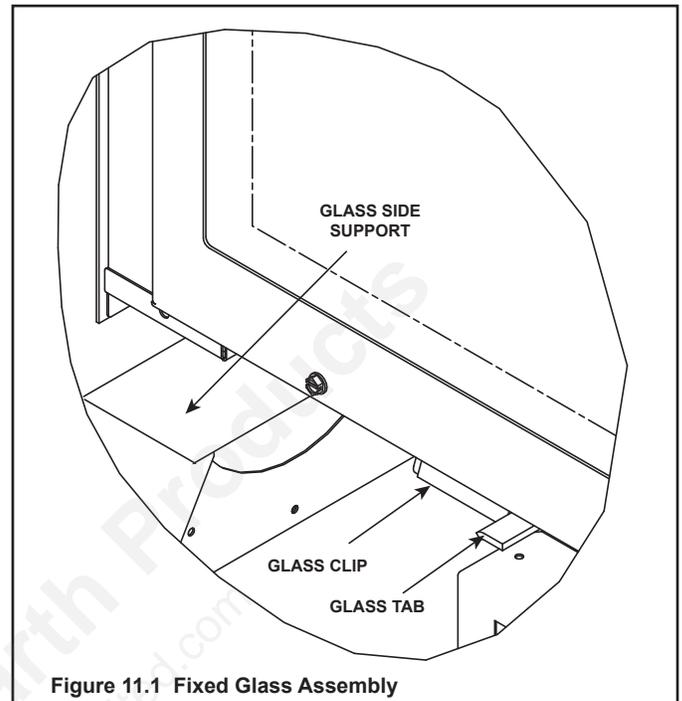

Figure 11.1 Fixed Glass Assembly
3. Use both index fingers to release spring latches. See Figure 11.1.
4. Allow glass to tilt forward. Grasp glass on the upper return lip of glass frame and tilt glass “out” and “down”. Lower gently to rest on side supports. See Figure 11.1. Allow top of glass assembly to tilt forward. Lift glass assembly “up” and “out”.
4. Hold bottom of the glass as you allow the glass assembly to seat over the four lower glass clips. See Figure 11.1.